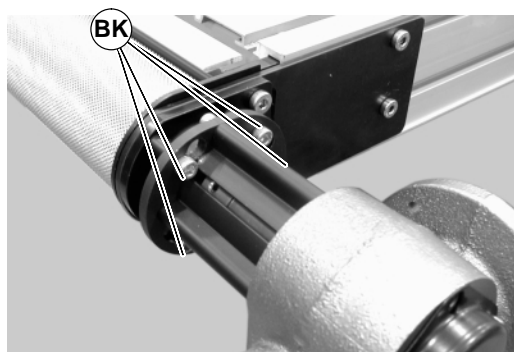

Figure 44
- 2) Loosen the four (4) lock screws (BK of Figure 44).